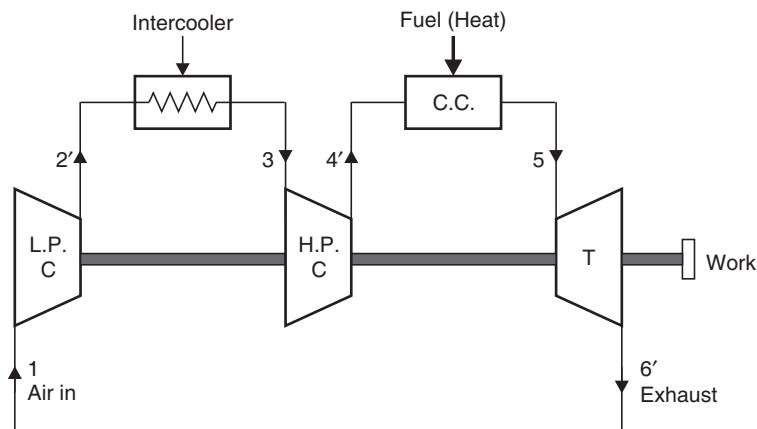
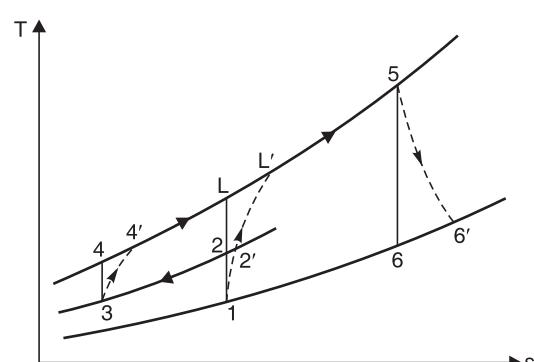

Fig. 4.37. Turbine plant with intercooler.
Fig. 4.38. *T-s* diagram for the unit.
**1. Intercooling.** A compressor in a gas turbine cycle utilises the major percentage of power developed by the gas turbine. The work required by the compressor can be reduced by compressing the air in two stages and incorporating an intercooler between the two as shown in Fig. 4.37. The corresponding *T-s* diagram for the unit is shown in Fig. 4.38. The actual processes take place as follows :